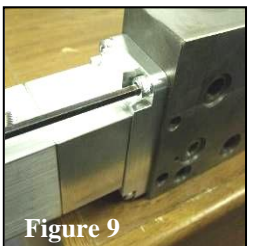

Figure 9
7. Using 5mm hex-head driver tighten Adaptor Plate Cap Screws as shown in Figure 9. **Note: Tighten in a**